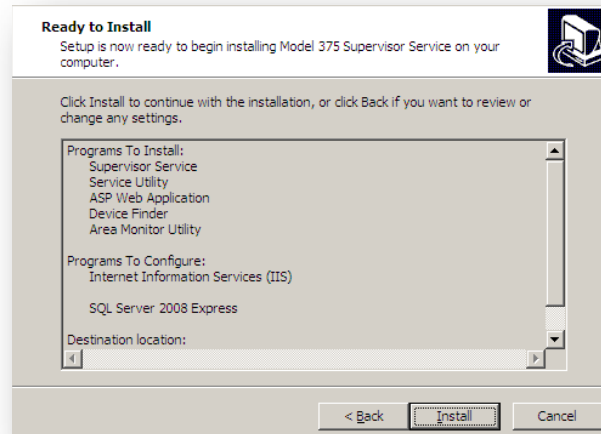

Figure 59 – Model 375 Web Page and Supervisor Service Installation (Ready to Install)
8. Consult your Network Administrator for the correct user accounts to use. If you are unsure, use the NT AUTHORITY/NETWORK SERVICE account. See Figure 59. Click **Next** after configuring the accounts.